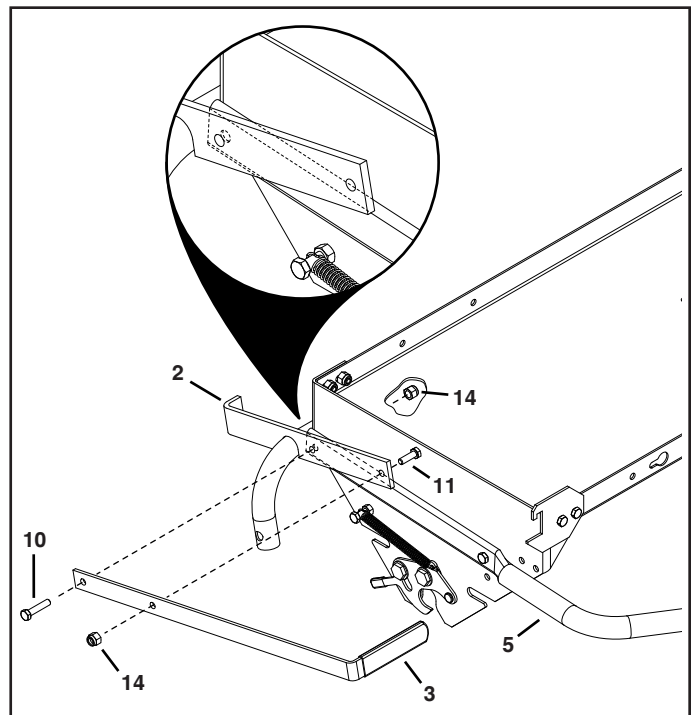

FIGURE 4
8. Attach the lift tube assembly (2), the lift handle (3), and the hitch tube (5) to the rear hole on the right side of the tray using a 5/16 x 1-1/2" hex bolt (10) and 5/16" nylock nut (14). **Tighten** the nut then loosen 1/2 turn. See figure 4.
9. Secure the top hole of the lift handle to the top hole of the lift tube assembly with a 5/16" x 1" hex bolt (11) and 5/16" nylock nut (14). **Tighten.** See figure 4.